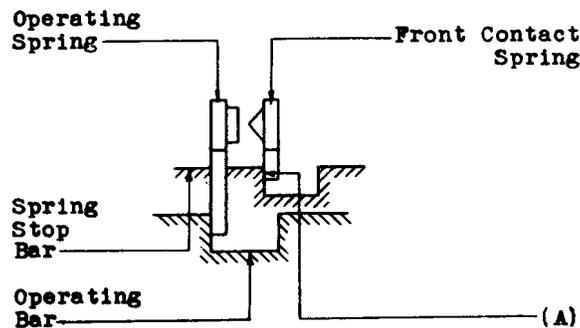

Fig. 5
(b) Fig. 5 (A) - Front Contact Spring Tang With the operating bar in the normal position, the pressure of the front contact spring tang against the side of the notch in the spring stop bar nearer the cam roller shall be